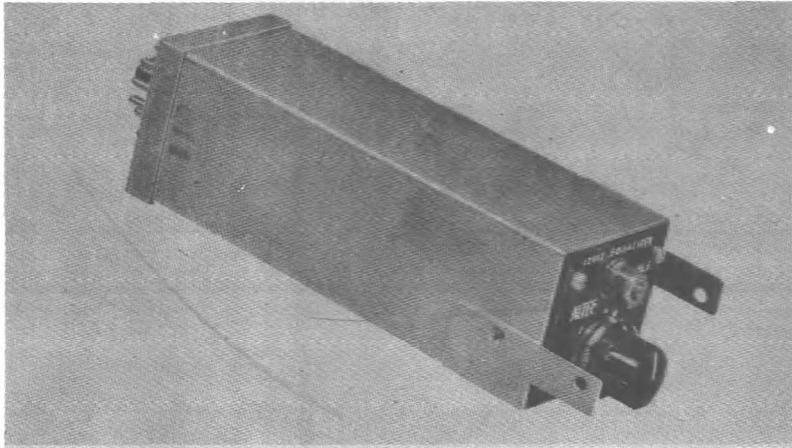

Fig. 13 — 12912 Equalizer
3.01 Equalizers are used in conjunction with repeaters to compensate for the frequency-amplitude characteristics in certain classifications of non-loaded or loaded cables and open wire lines. The 12912 equalizer case (Fig. 13, 14) is the same size as the amplifier and may be mounted in a similar manner as the amplifier. A rotary switch can be pre-set to suit the facility; e.g., non-loaded cable, H-44 or H-88 loaded cable, and open wire. Front panel controls are provided for the L.F. and H.F. adjustment respectively. Table 2 shows the parameters of cable facilities which may be aligned with the equipment.
3.06 The 12912 equalizer (Figures 13 and 14) is designed for use with either type of amplifier and permits correction of the frequency/amplitude characteristics of cable and open wire circuits. Non-loaded cables have a characteristic impedance of 150 ohms, and loaded cables 600 ohms or 1200 ohms, and open wire lines 600 ohms. In the equalizer all correction is made at an impedance of 600 ohms. Transformer T1 functions as the impedance matching device with its primary tapped to match the line connection. A center tap is provided to enable a DC control path to be operated over the cable facility.